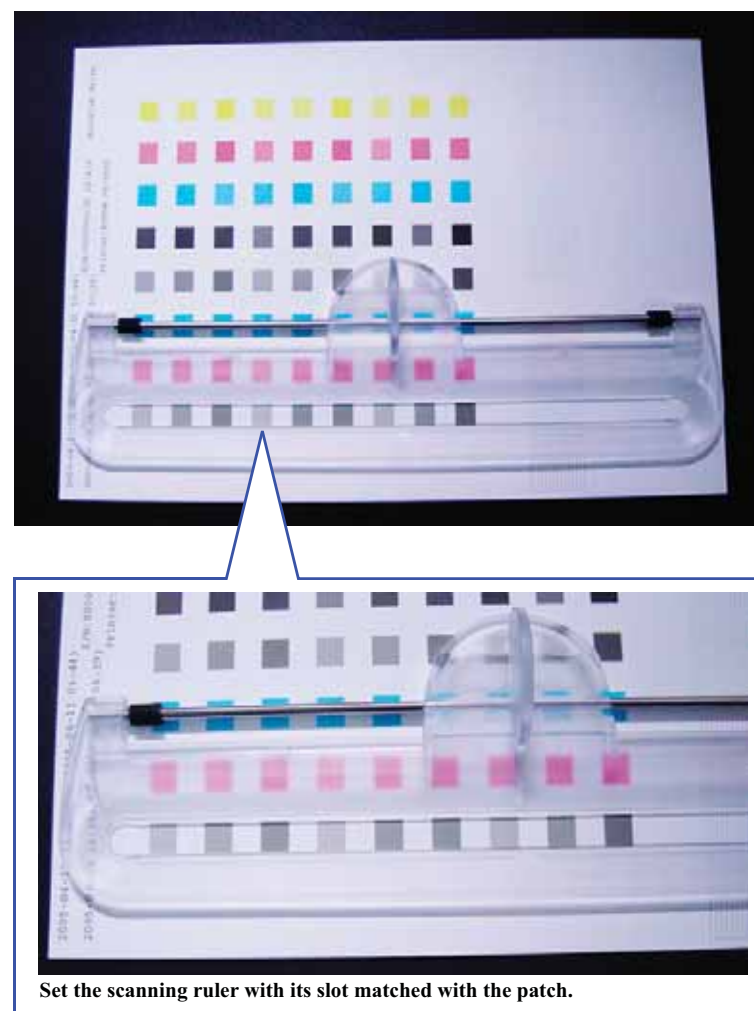

Figure 5-43. Setting the Chart and the Scanning Ruler
13. Refer to Figure 5-43, lay the chart on the black paper (or sheet) with the upper part of the chart facing left side, and set the scanning ruler onto the bottom most patch line.